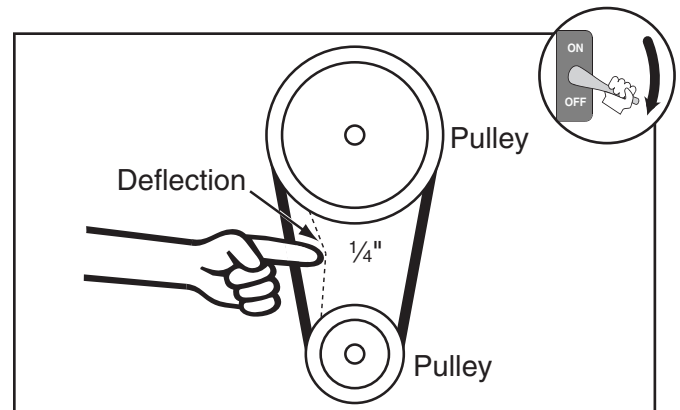

Figure 69. Correct V-belt deflection.
3. Check belt tension. Each belt is correctly tensioned when there is approximately $\frac{1}{4}$ " deflection when it is pushed with moderate pressure, as shown in **Figure 69**.